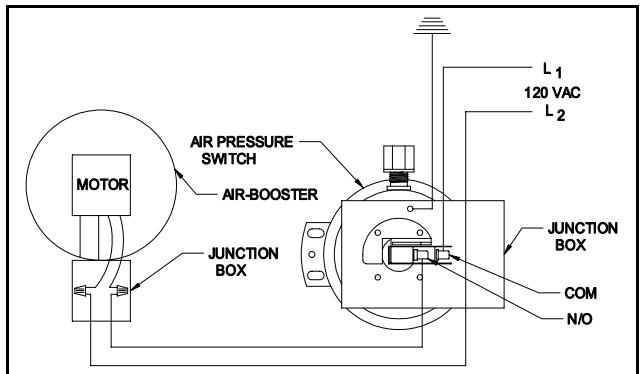

Figure 9
2. Refer to the wiring diagram to determine the proper wiring connections. Attach all of the wires as indicated in the diagram. Secure the box cover to the box when complete. (See Figure 9)